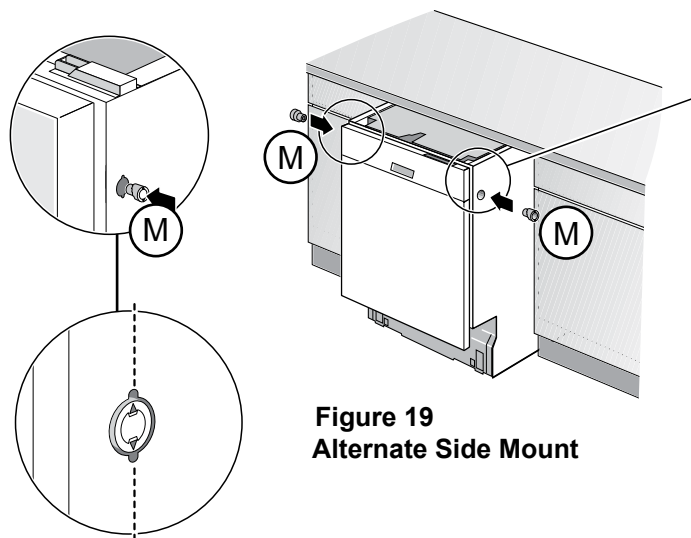

Figure 19
**Alternate Side Mount** for opening  $23\frac{5}{8}$ " (600mm). Insert a side mount force distributor (M) in each side as shown in **Figure 19**.